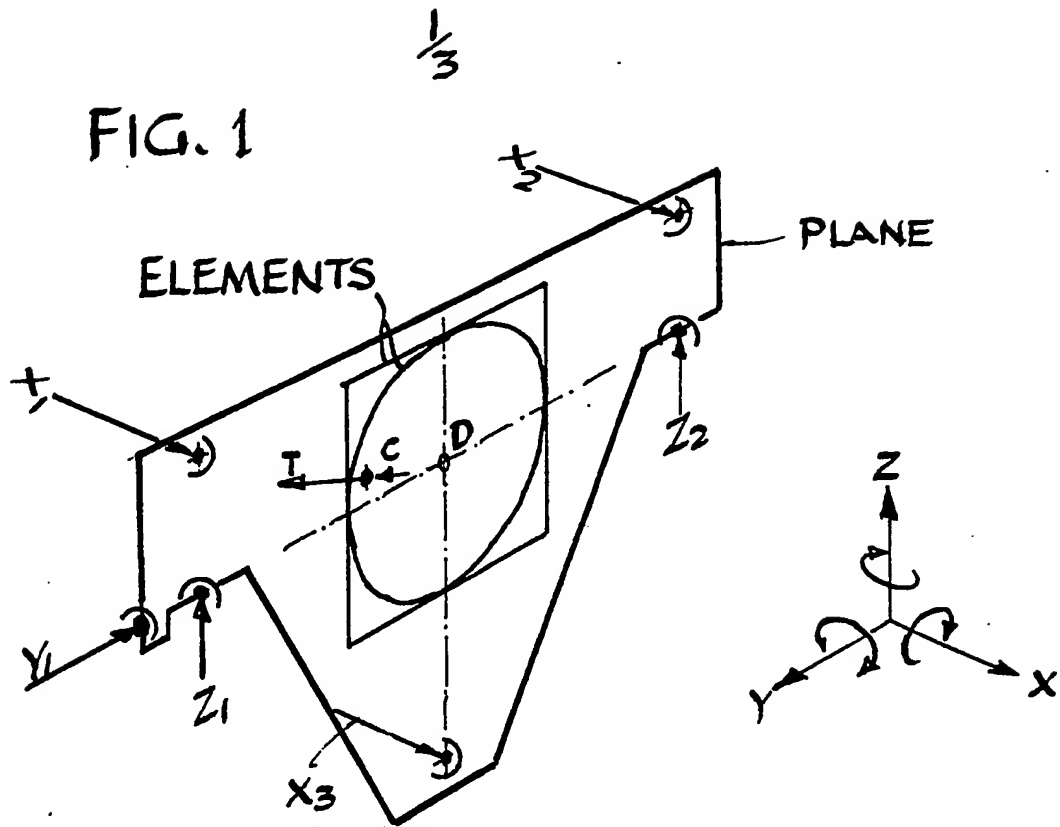
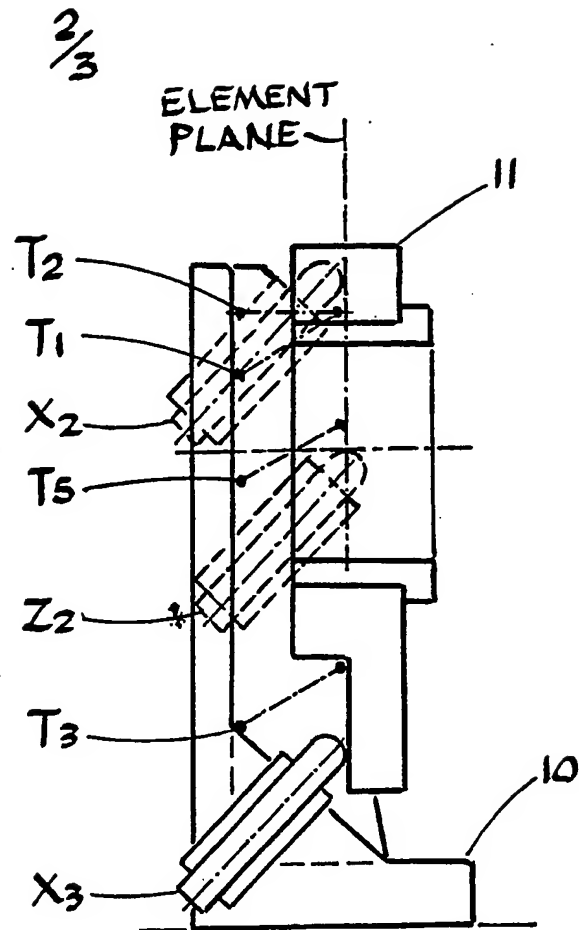

FIG. 2
FIG 4
2. Fig 2 & 3 shows one embodiment of Fig 1; the elements are held in a holder 11 located on the points of adjusting screws acting as  $x_1$ ,  $x_2$ ,  $x_3$ ,  $y_1$ ,  $z_1$ ,  $z_2$ . The screws are in screw holes part of the body 10 but free to turn for adjustment. Each screw is oblique to the plane. Tension  $T$  is placed and directed to hold the holder 11 onto the locator screws but also to overcome friction when adjustment causes sliding. The single force  $T$  can be replaced by separate forces  $T_1$ ,  $T_2$ ,  $T_3$  or  $T_4$   $T_5$  for the sake of unobstructed through transmission. The elements can be inserted and be located to the Holder 11 on either side of the said operating plane. Adjusting screws  $x_1$ ,  $x_2$ ,  $x_3$  can be angled in other directions for convenience of construction.
3. Fig 4 shows the screws forced by oblique action to contact the mating screw hole diagonally for two short lengths. This eliminates wobble and backlash due to clearance. The linear movement of the holder 11 is magnified at the screw ends giving the sensitive adjustments.
5. An adjustable mount substantially as described herein with reference to Figures 2 and 3 using either Figures 4 - 8 of the accompanying drawing.